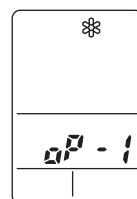

Fig. 59b
- d) ✱ appears and "oP-1" blinking in the remote controller clock display area. (Fig. 59b)